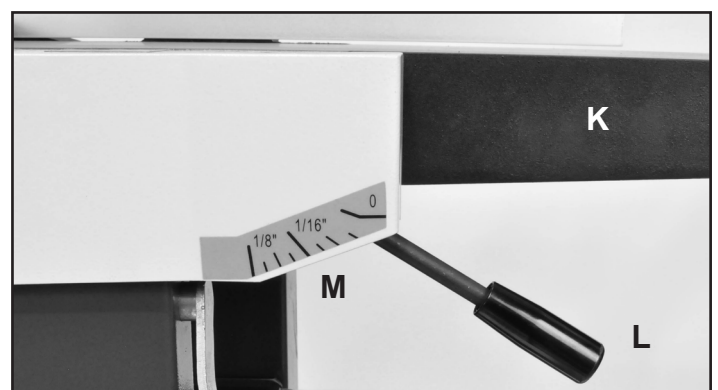

FIG. 10
The jointer's Infeed Table (#114, FIG. 10, K) is adjusted up and down by using the adjusting Lever (L). This regulates the cutting depth for edge jointing and surface planing.
2. The Scale (M), located next to the adjusting lever, corresponds to the depth of cut - how much material is being removed - from 0" to 1/8".